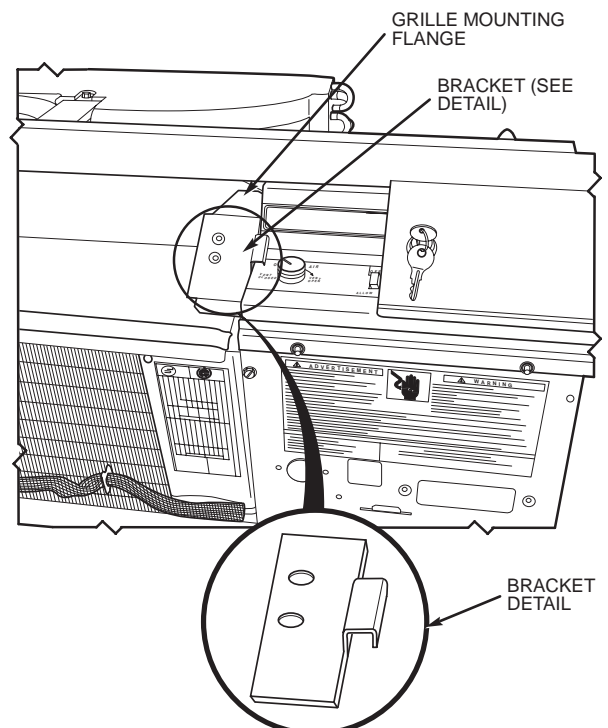

Fig. 2 — Locking Control Door Bracket
5. As shown in Fig. 2, place the bracket over the grille mounting flange and align the two screw holes. The bracket must be oriented as shown in the detail in Fig. 2.
7. From the right side of the unit, slide the top left edge of the replacement door into the mating channel in the top plate. Slide the door to the left until it is fully seated and make sure the door rotates upward freely. See Fig. 2 and 3.